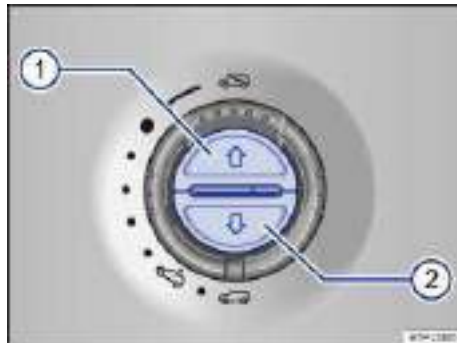

Fig. 174 In the headliner: Buttons for sunshade.
- Press and hold the button ⇒ fig. 174 \(2\) for about 5 seconds until the sunshade is completely closed.